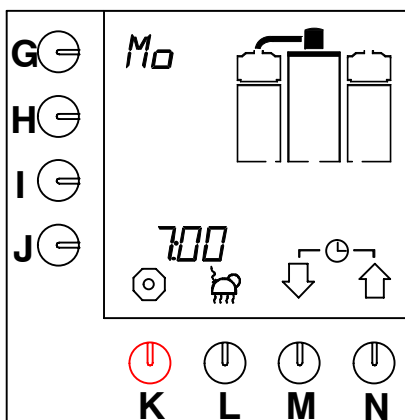

Fig. 13 Example current day and time
- The current day and time appear for a moment on the display (fig.13 ).
- The current day and time appear on the display (fig.13 ).